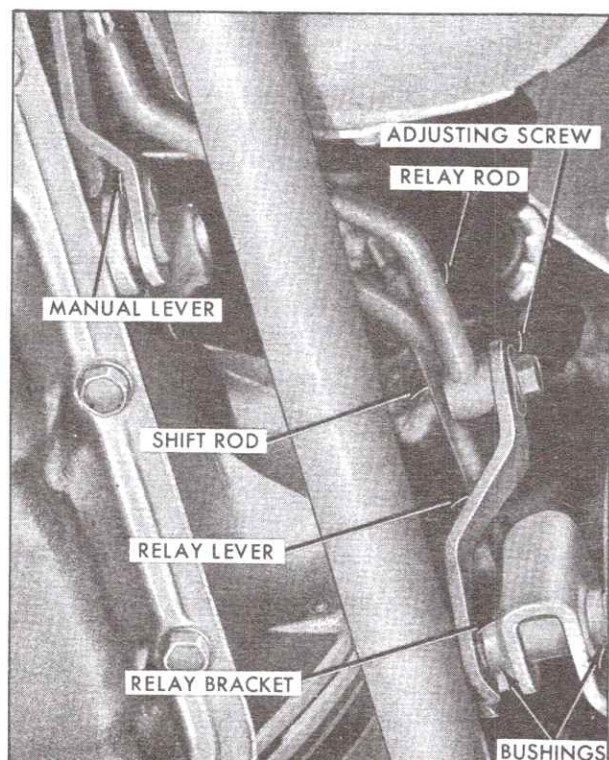

Fig. 7-132 Adjusting Manual Linkage
**22. Manual Linkage Adjustment (Fig. 7-132)**